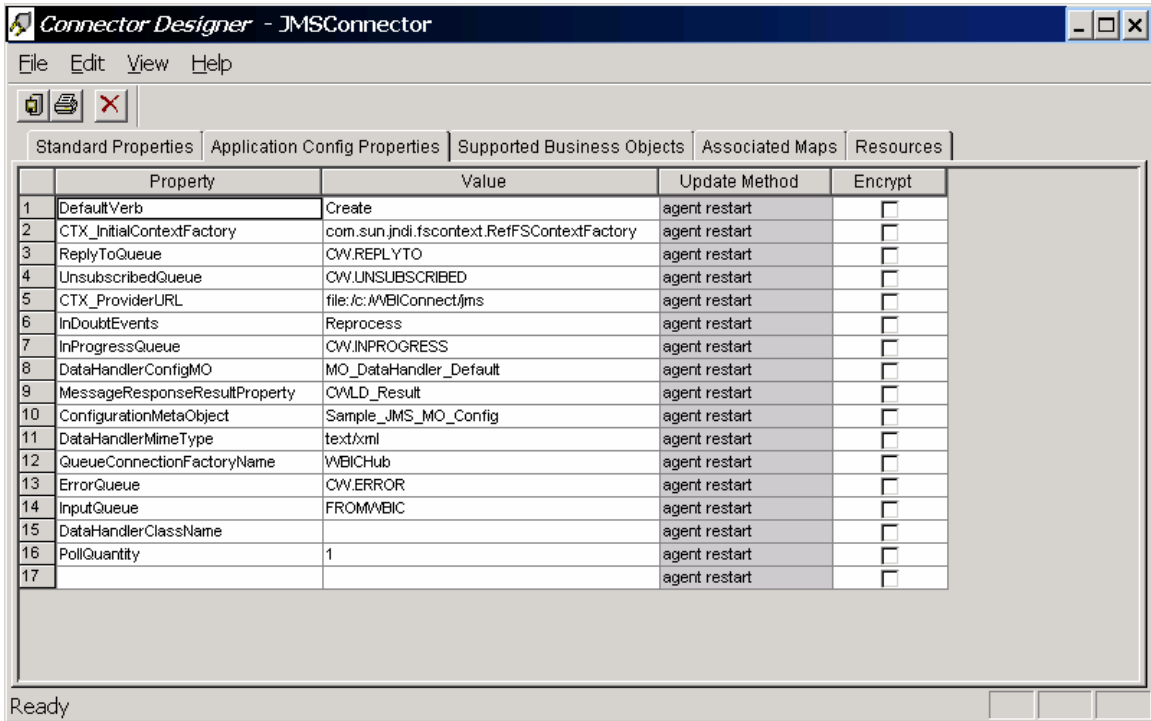

Figure 10. Sample JMS adapter configuration
1. Install and configure the JMS Adapter. See Figure 10 for a sample of configuring the JMS adapter.